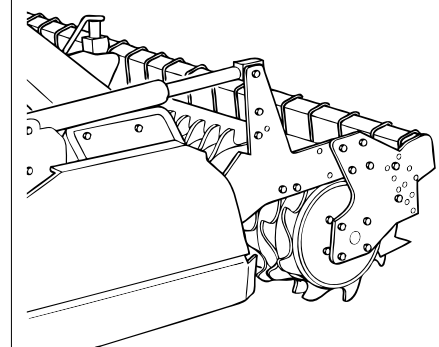

Fig. 14
3. With hydraulic cylinders (Fig. 14). This solution for adjusting work depth with hydraulic control cylinders can be implemented from the driving seat, by means of the hydraulic mechanism which controls the two hydraulic cylinders that regulate the rear rollers (8 Fig. 1) thus determining the work depth. Both hydraulic cylinders feature stop valves.